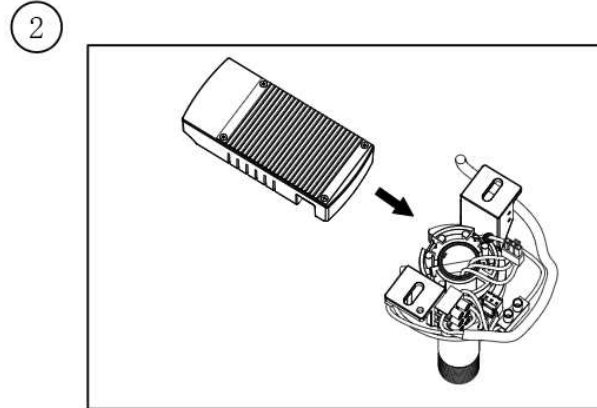

Fig. 4.2
2. Install the drive component onto the hanger by pushing through the mounting bracket; (Fig.4.2)